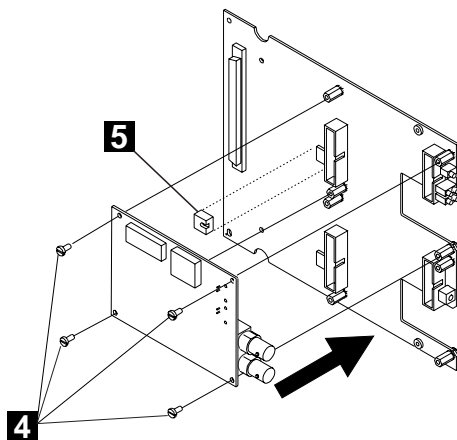

Figure 12. Attaching the I/O Card
- **5** Attach the I/O card to the motherboard using the four screws provided (**4** in Figure 12).